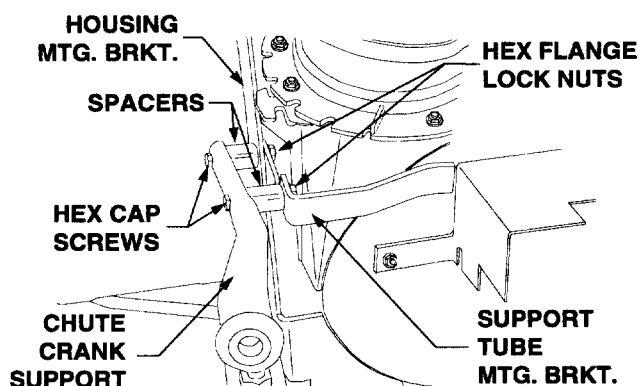

Figure 4
4. Insert the two hex cap screws (1) through the holes at the forward end of the chute crank support assembly (D), then slide a spacer (3) onto each cap screw (1). See Figure 4.
5. Position the chute crank support (D) to insert the screws (1) into the holes of the support tube mtg. bracket and the housing mtg. bracket on the left rear of the snow thrower housing. Secure with the hex flange lock nuts (2). Refer to Figure 4.